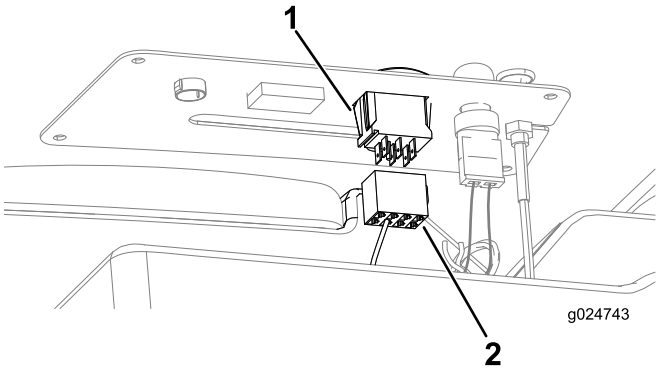

Figure 52
6. Connect the 8-socket connect of the machine harness to the 3-position switch (Figure 52).